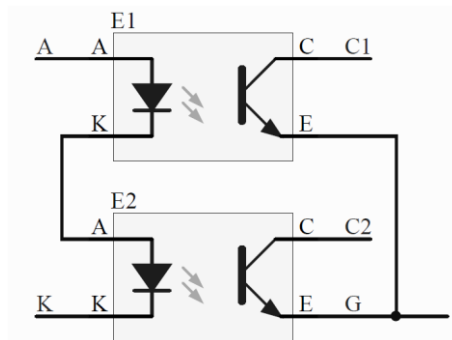

Figure 6 Photointerrupter Board Schematic
- K - Kathode end of series connection of IR LED's, see Figure 6,
- A - Anode end of series connection of IR LED's, see Figure 6,